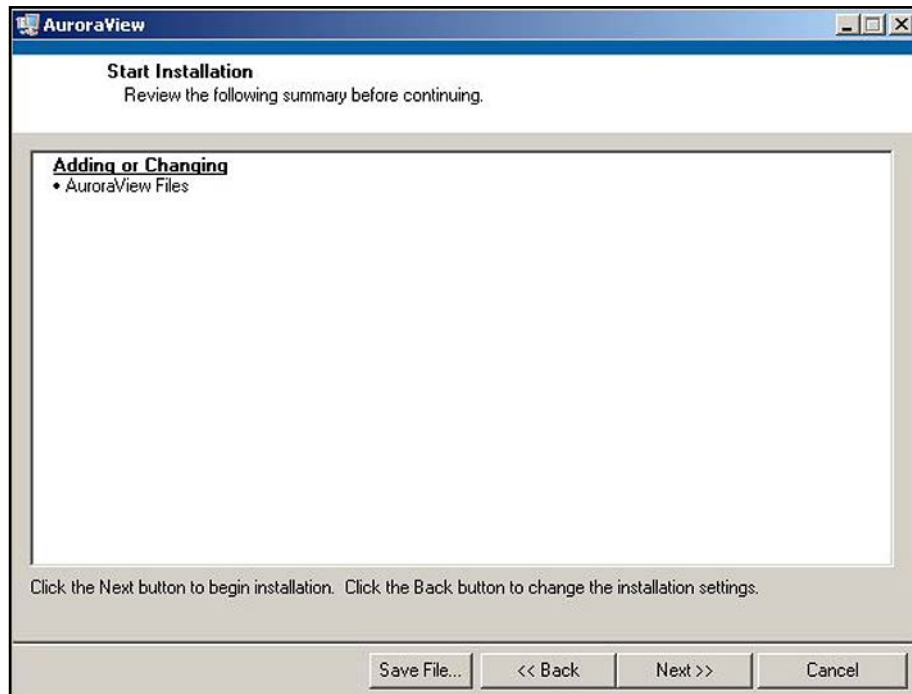

Figure 56: Starting the Installation
7. The next screen (see *Figure 56* below) provides instructions for initiating the installation. When ready, click **Next** to begin.